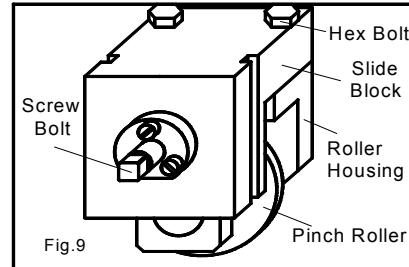
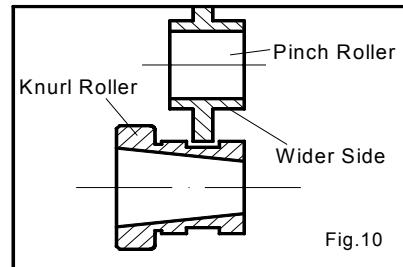

Fig.9
Fig.10
5.1.9 In case the knurl roller or the pinch roller is replaced, their relative position should be adjusted again. Loosen the hex bolt and turn the screw bolt to move the roller housing to align the pinch roller with the notch of the knurl roller as shown in Fig.9 and Fig.10. After the adjustment, fasten the hex bolt.
5.1.10 For GC300 series, when the 11.91mm pinch roller is used, it should be noted that the pinch roller should be set with the wider side outward as shown in Fig.10.